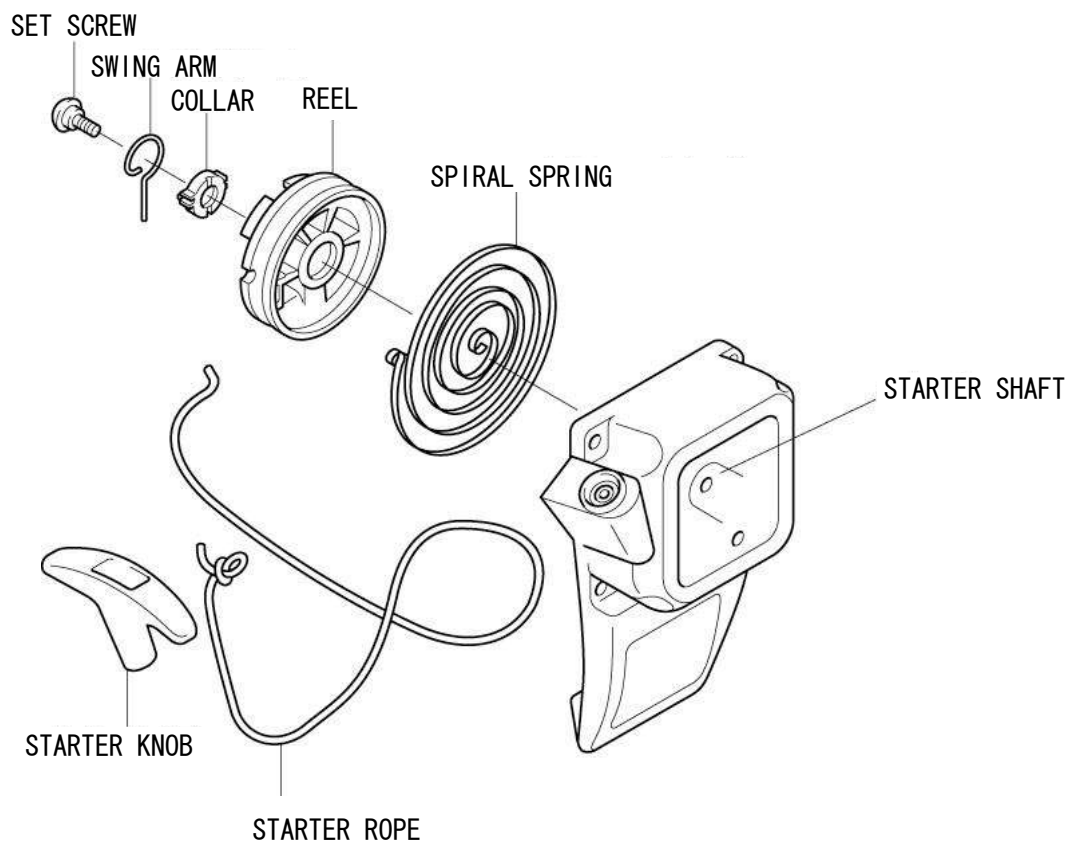
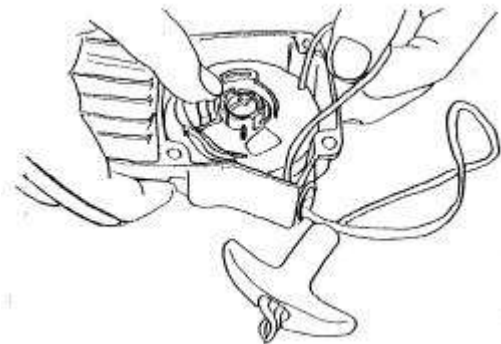

Fig.6-2
Fig. 6-5
- (3) Remove the parts as shown in Fig.6-2.
(3) Before inserting the REEL in the STARTER CASE, wind the STARTER ROPE around the REEL three turns in the direction of the arrow shown in Fig. 6-5, draw out the third turn of the STARTER ROPE from the REEL cut-out, and fit the REEL completely inside the STARTER CASE so that the SPIRAL SPRING inner end can hook on the hook. then, hold the STARTER ROPE as shown in Fig. 6-5, and twist the REEL 4 to 5 turns in the direction of the arrow using the REEL cut-out. After the completion of winding, of the STARTER ROPE hold the REEL tightly to prevent the STARTER ROPE from winding back, pull the STARTER KNOB in order for the SPIRAL ROPE to tighten and then release the STARTER KNOB slowly. Reassemble the parts in reverse order of disassembly shown in Fig. 6-2. Tighten the SETSCREW firmly.